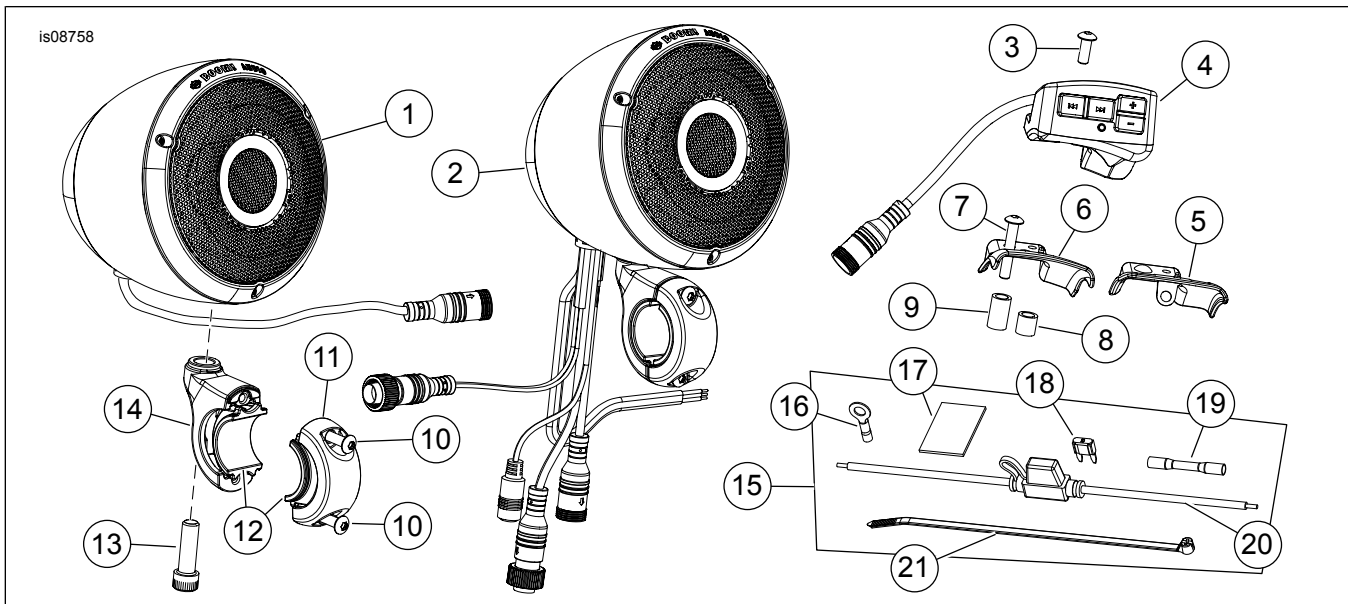

Figure 7. Service Parts, Handlebar-Mounted Speaker Kits
- See Figure 7. The speaker pod (2) with **five** electrical connectors mounts on the **brake** side of the handlebar. The speaker pod (1) with **one** electrical connector (1) mounts on the **clutch** side.
1. See Figure 7. Place speakers in locations determined earlier. Some models may require relocating of the clutch cable. Place a few drops of blue Loctite on all clamp screws (10 and 13). Secure speakers to handlebar using clamps (14 and 11) and screws (10). Tighten screw (10) to 4.5-6.8 Nm (40-60 in-lbs). Tighten screw (13) to 20-27 Nm (180-240 in-lbs).